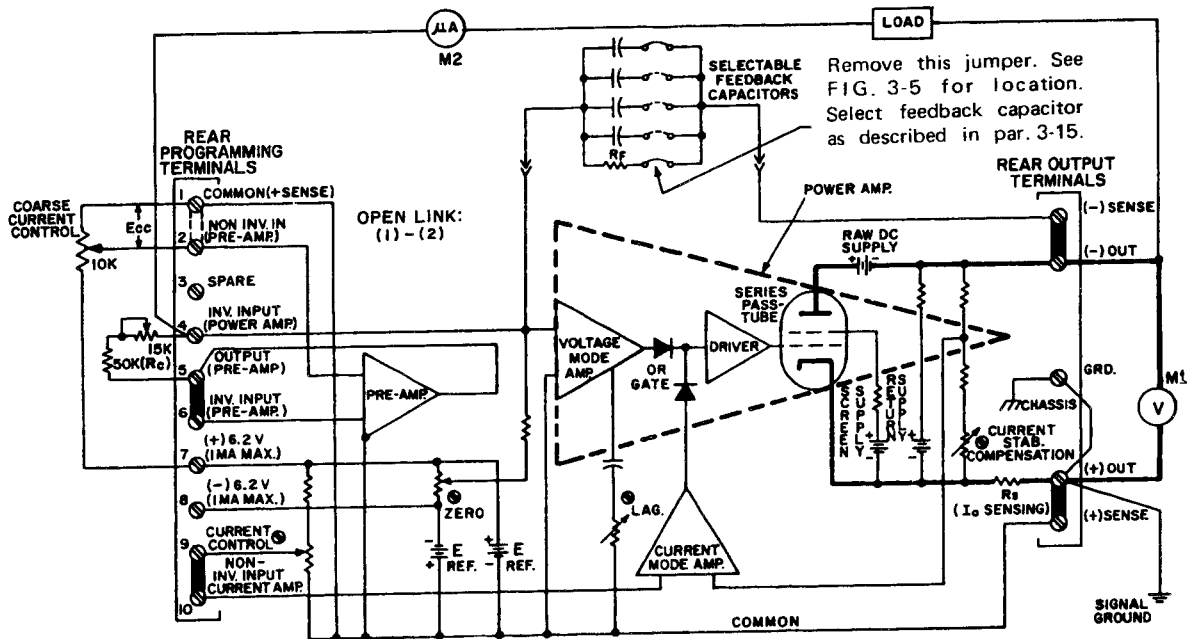

FIG. 3-16 EXTERNAL CONTROL OF THE OUTPUT CURRENT, USING THE VOLTAGE MODE AMPLIFIER. (LOAD COMMON TO THE (-) OUTPUT TERMINAL).
- 3-55 COMPONENT SELECTION. To summarize the material presented in the previous paragraphs (3-50 to 3-54) and to illustrate component selection, a sample application is described below and shown in FIG. 3-16.
- 3-57 Connect all components as shown in FIG. 3-16. The leads going to the preamplifier and power amplifier inputs should be shielded for minimum noise pick-up. The shield must be connected (single-ended) to the signal ground point.
- 3-59 OUTPUT MEASUREMENTS. Output effects may be measured with the microammeter in series with the load. (See FIG. 3-16.) With the current monitor (M2) in the position shown, a high voltage isolated measuring device is not needed and the output current measurements can be performed directly.